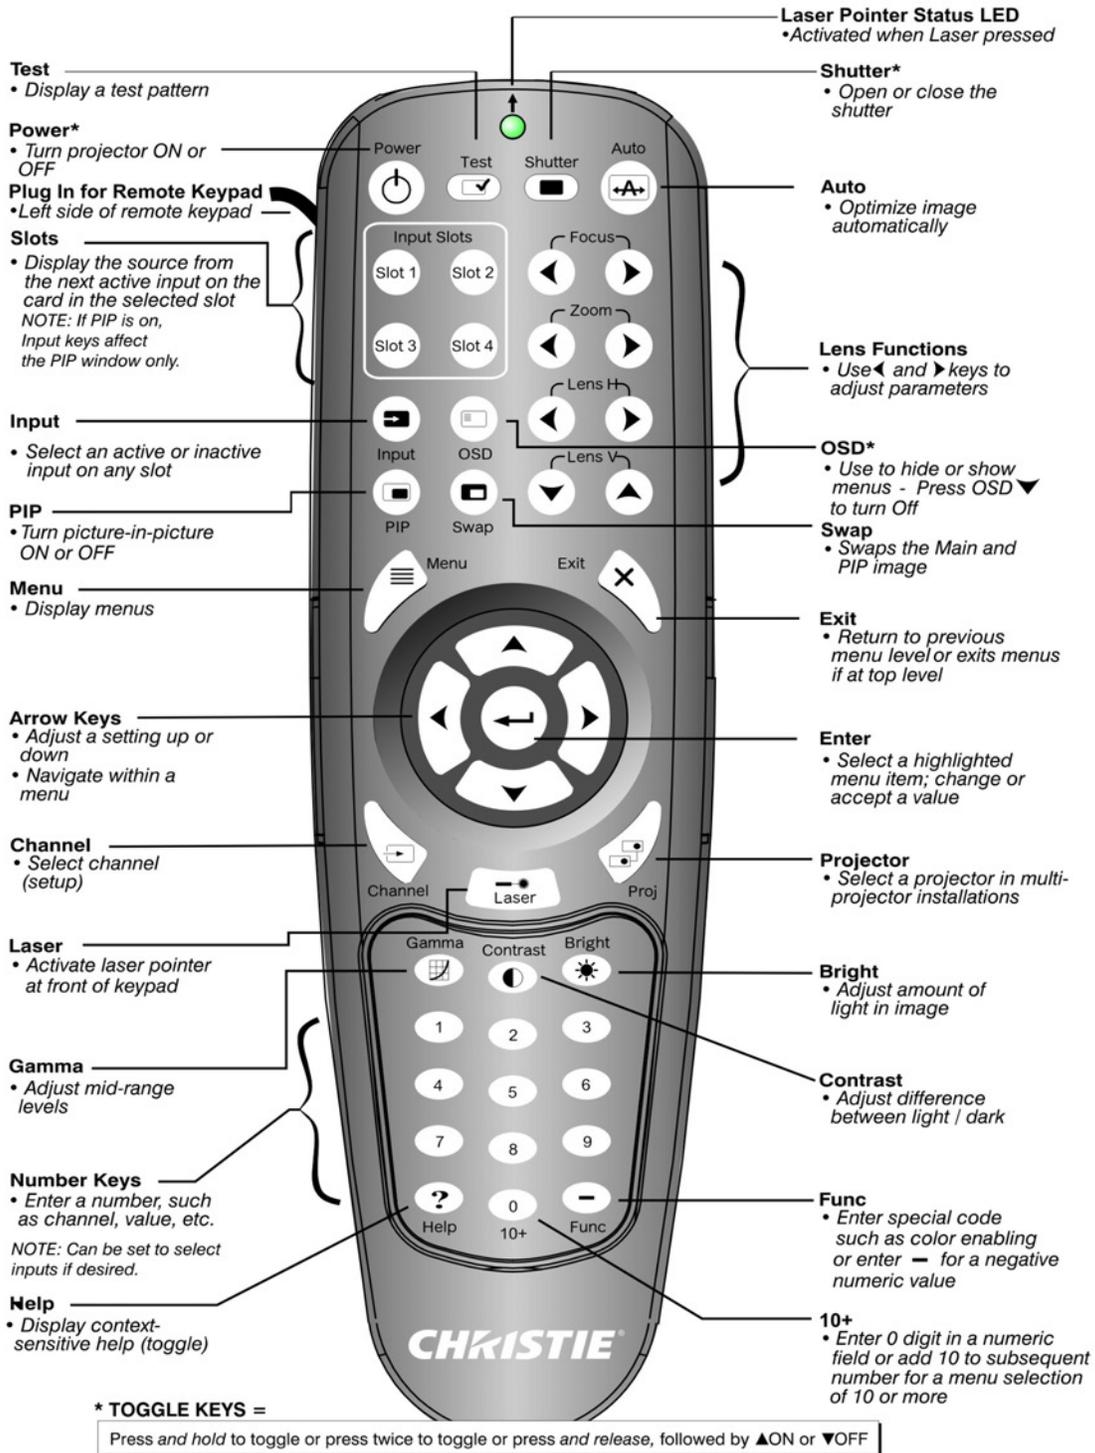

FIGURE 3-1 REMOTE KEYPAD
- **Remote Keypad:** For wired or wireless control up to 25 feet (8 m) away (includes cable for use as a wired remote). The remote keypad controls the projector by way of wireless communications from a battery-powered infrared (IR) transmitter. Use the remote keypad the same way you would use a remote keypad supplied with a TV or VCR. When pressing a function key, direct the keypad toward the projector’s front or rear IR sensor. One of the two IR sensors on the projector will detect the signal and relay the commands for internal processing. A laser pointer is built into the remote keypad. See **Figure 3-1 Remote Keypad**.
- NOTE:** Use **POWER**, **SHUTTER**, and **OSD FUNCTIONS** by doing one of the following: “press-and-hold” (2 seconds) or press twice quickly, followed by pressing either the **UP ARROW KEY** to switch on or the **DOWN ARROW KEY** to switch off once. See **Figure 3-1 Remote Keypad**.
See **Figure 3-1 Remote Keypad** for the description of the keys provided for the remote keypad.
Specific keypad commands are explained in **Figure 3-1 Remote Keypad**.